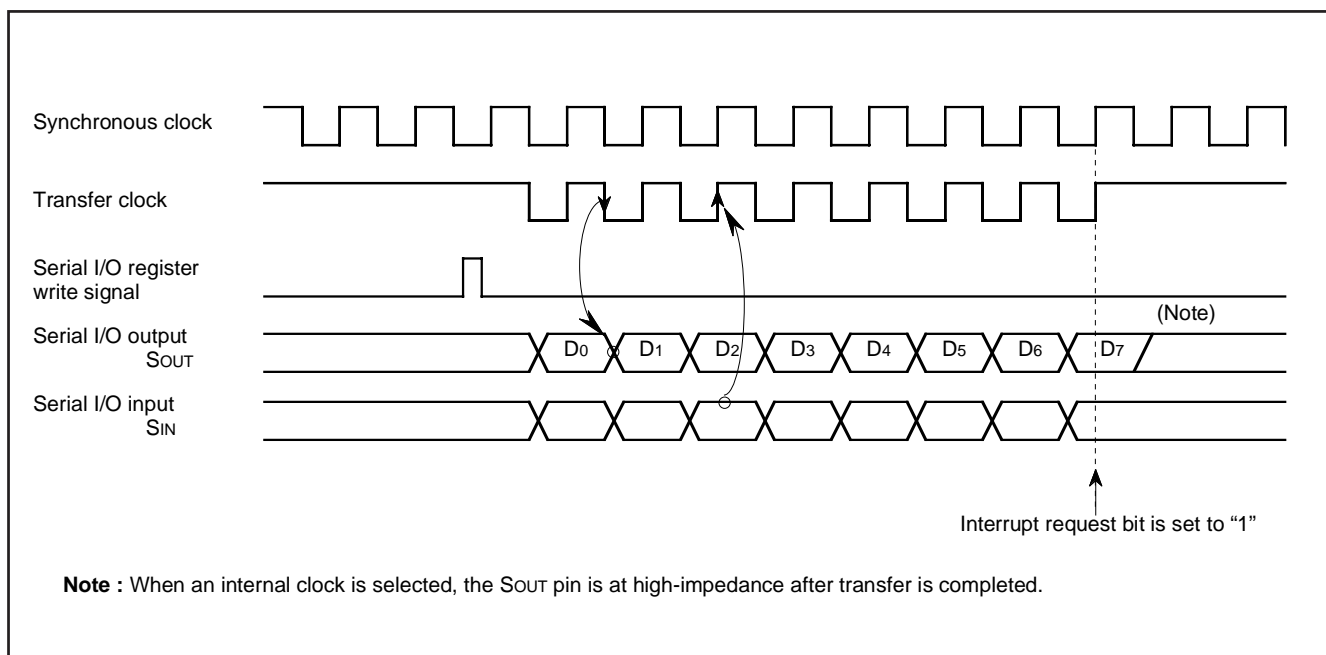

Fig. 8.5.2 Serial I/O Timing (for LSB first)
**External clock :** The an external clock is selected as the clock source, the interrupt request is set to “1” after the transfer clock has been counted 8 counts. However, transfer operation does not stop, so the clock should be controlled externally. Use the external clock of 1 MHz or less with a duty cycle of 50%. The serial I/O timing is shown in Figure 8.5.2. When using an external clock for transfer, the external clock must be held at HIGH for initializing the serial I/O counter. When switching between an internal clock and an external clock, do not switch during transfer. Also, be sure to initialize the serial I/O counter after switching.